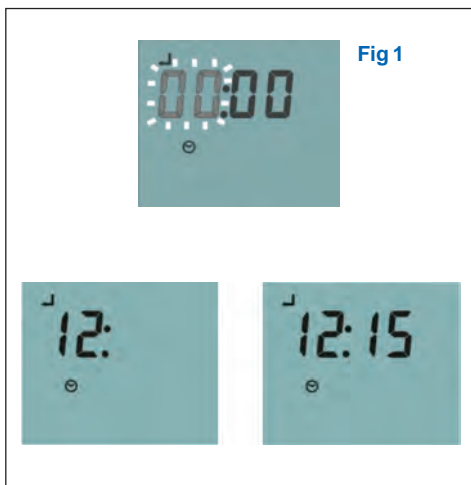

Fig 1
The first two digits (00) of the display will flash prompting the installer to set the hour (Fig 1).